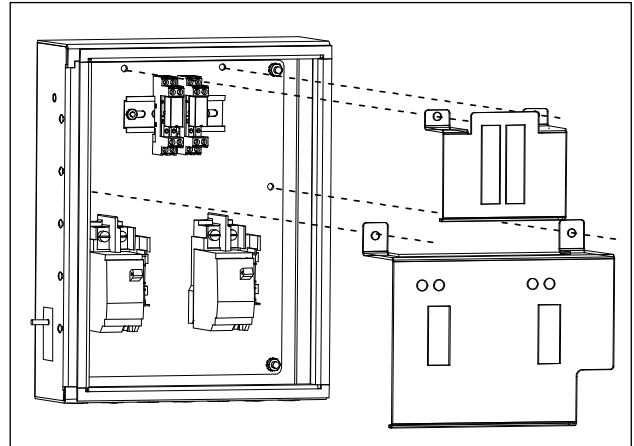

Figure 6 Covers
5. Install the covers over the breakers and relays using 10-12 (1/2" long) Philips screws with washers (two per cover, Figure 6).